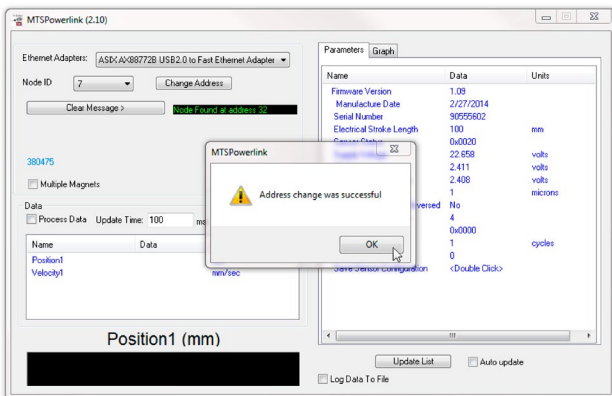

Fig. 55: Address change was successful
- An acknowledgement will be displayed after it (Fig. 55).